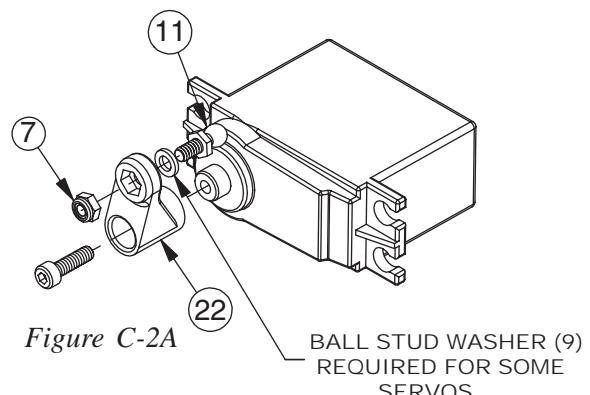
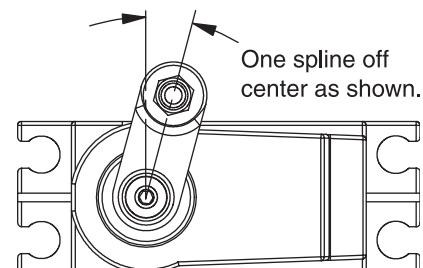

Figure C-2A
Figure C-2B
- 1. Using Table C-3C, on next page, determine which Servo Arm (22) is required for your servo. If your particular servo is not listed, try using the arm recommended for another servo made by the same manufacturer.
Some Servos may require the use of a Ball Stud Washer (9) placed behind the Ball Stud (11) for proper Servo Link alingment, as shown in Figure C-2A.
- 2. Insert a 4-40 Mini Locknut (7) into the hex area of the Servo Arm. Thread a 3/16" Ball Stud (11) through the hole in the Arm, into the Locknut, and tighten.
- 3. Plug the servo into the radio system's receiver (*not included*). Make sure that there is power to the receiver, and turn the transmitter on followed by the receiver. Be sure that the trim settings for the steering on your transmitter are set to the center. With the radio system still turned on, attach the servo arm to the output shaft so that the arm is one spline off center in the direction shown in Figure C-2B. Secure the arm with the servo arm screw supplied with the servo.